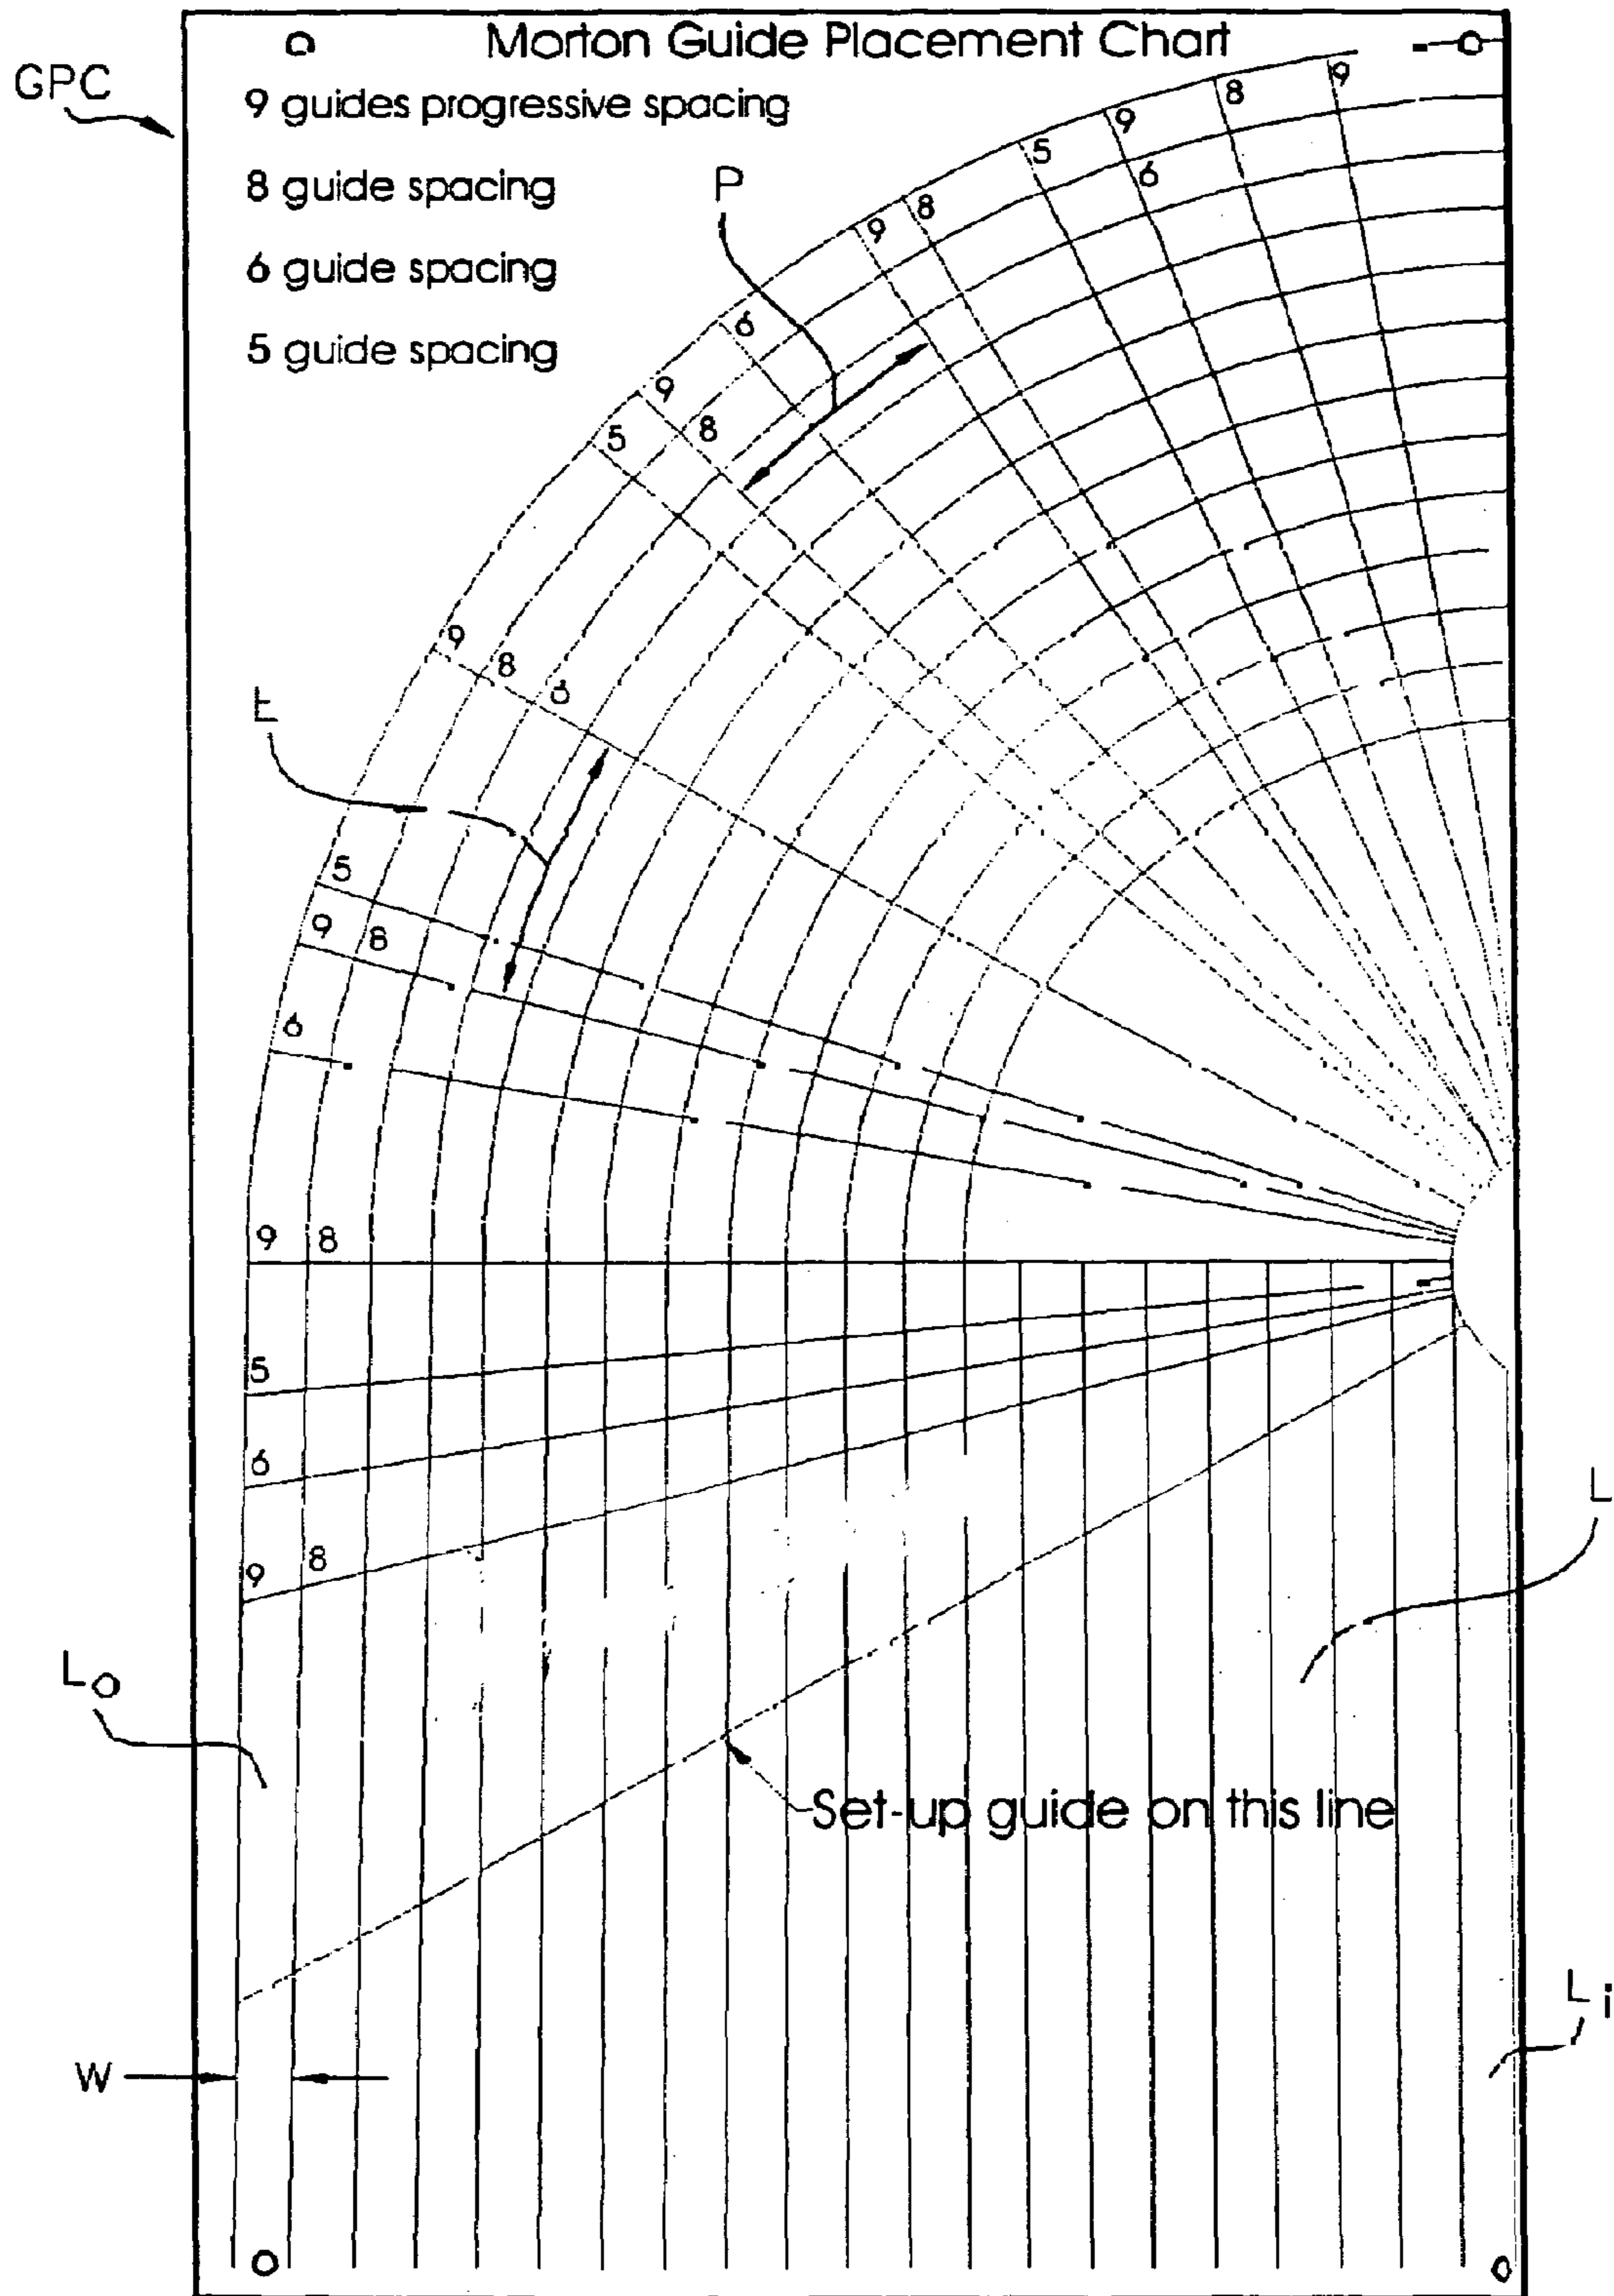

FIG. 1
FIG. 1 shows the guide placement chart of the present invention;
Rods (R) have different amount of power, taper, and are used to perform a variety of fishing tasks. The angle spacing technique places the guides (G) using equal angles ( ) or progressive angles (B) as a spacing measurement. The guide placement grid (GPC) as shown in FIG. 1 has a series of lanes or pathways (Li) of predetermined width (W) which are curved or arcuate at the upper portion wherein the radius of the arc increases from the inner most lane (Li) to the outermost lane (Lo). The curved or arcuate portions of the lanes (L) are intercepted by a series of radially directed marker lines defining the optimum locating points for guides (G).